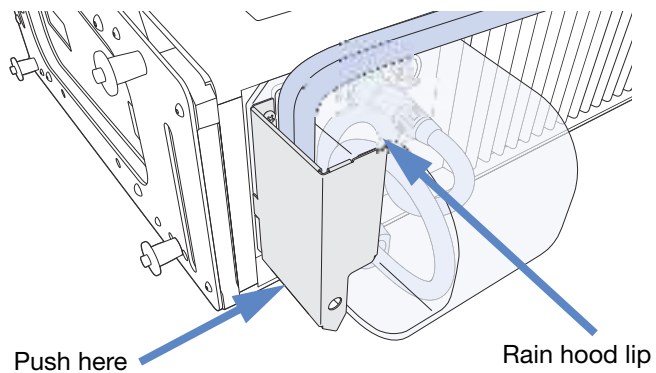

Figure 51: Pushing Shield Toward Rain Hood
8. Push the shield toward the rain hood until its edge clicks into place over the rain hood lip (Figure 51).